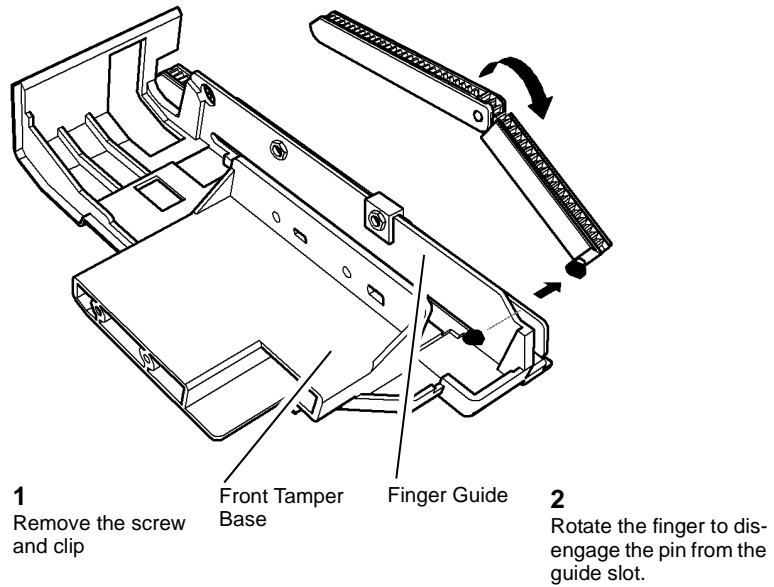

Figure 2 Front support finger
4. Remove the front tamper base and front support finger, Figure 2.